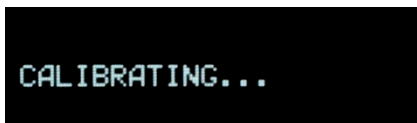

Figure 2-6: Calibration in Progress
2. Once the navigation button is pressed, Figure 2-6 shows on the display indicating short calibration is in progress.